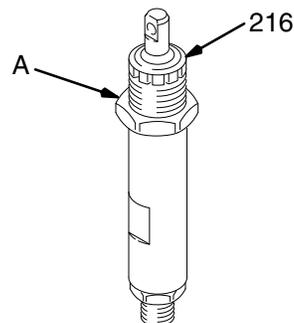

Fig. 35
- Tighten the packing nut (216) hand tight. Screw the cylinder locknut (A) down to the bottom of the external cylinder threads. See Fig. 35.